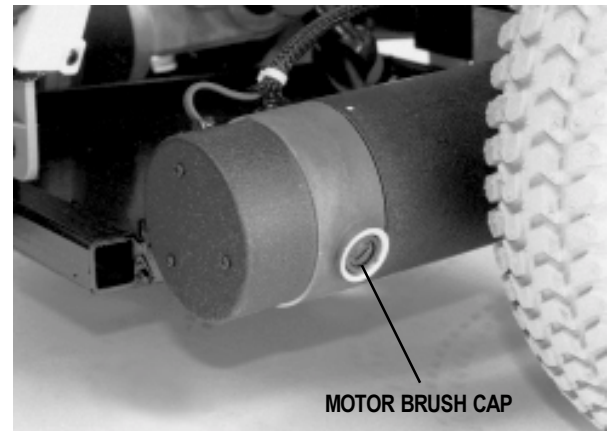

Figure 25. Motor
2. Unscrew the motor brush caps. See figure 25.